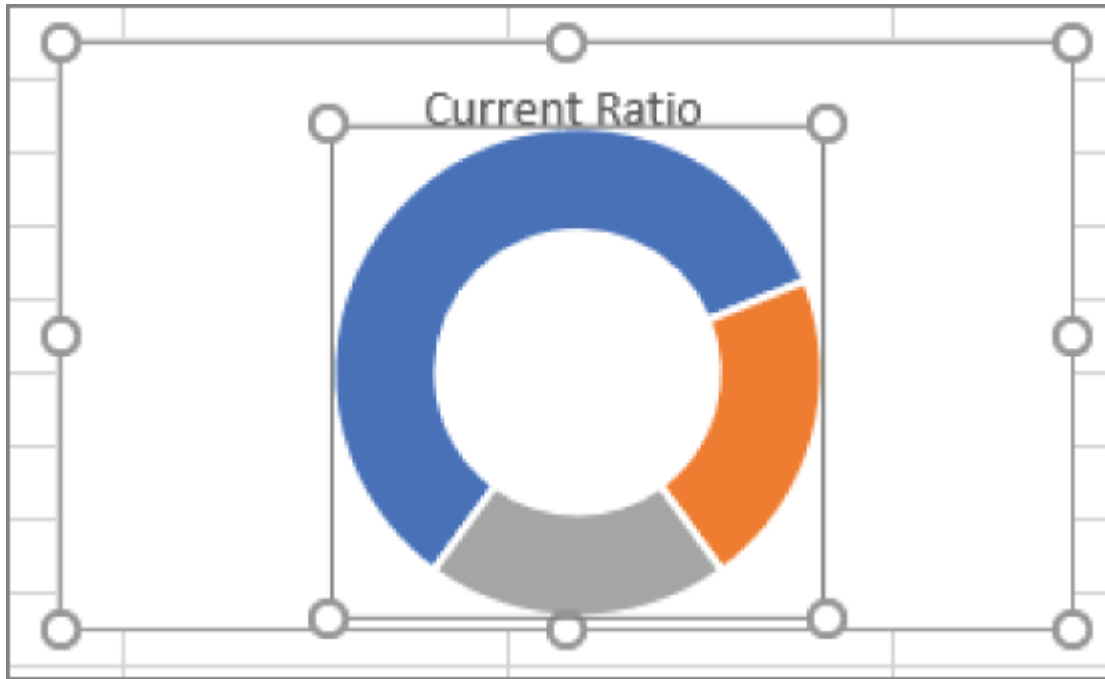

Figure 2.54: Resize the plot area to fill More of the chart area.
4. From the Ribbon, choose Chart Tools ⇌ Format and select Plot Area from the Chart Element drop-down to show the sizing handles of the plot area. Resize the plot area to fill more of the chart as shown in Figure 2.54.